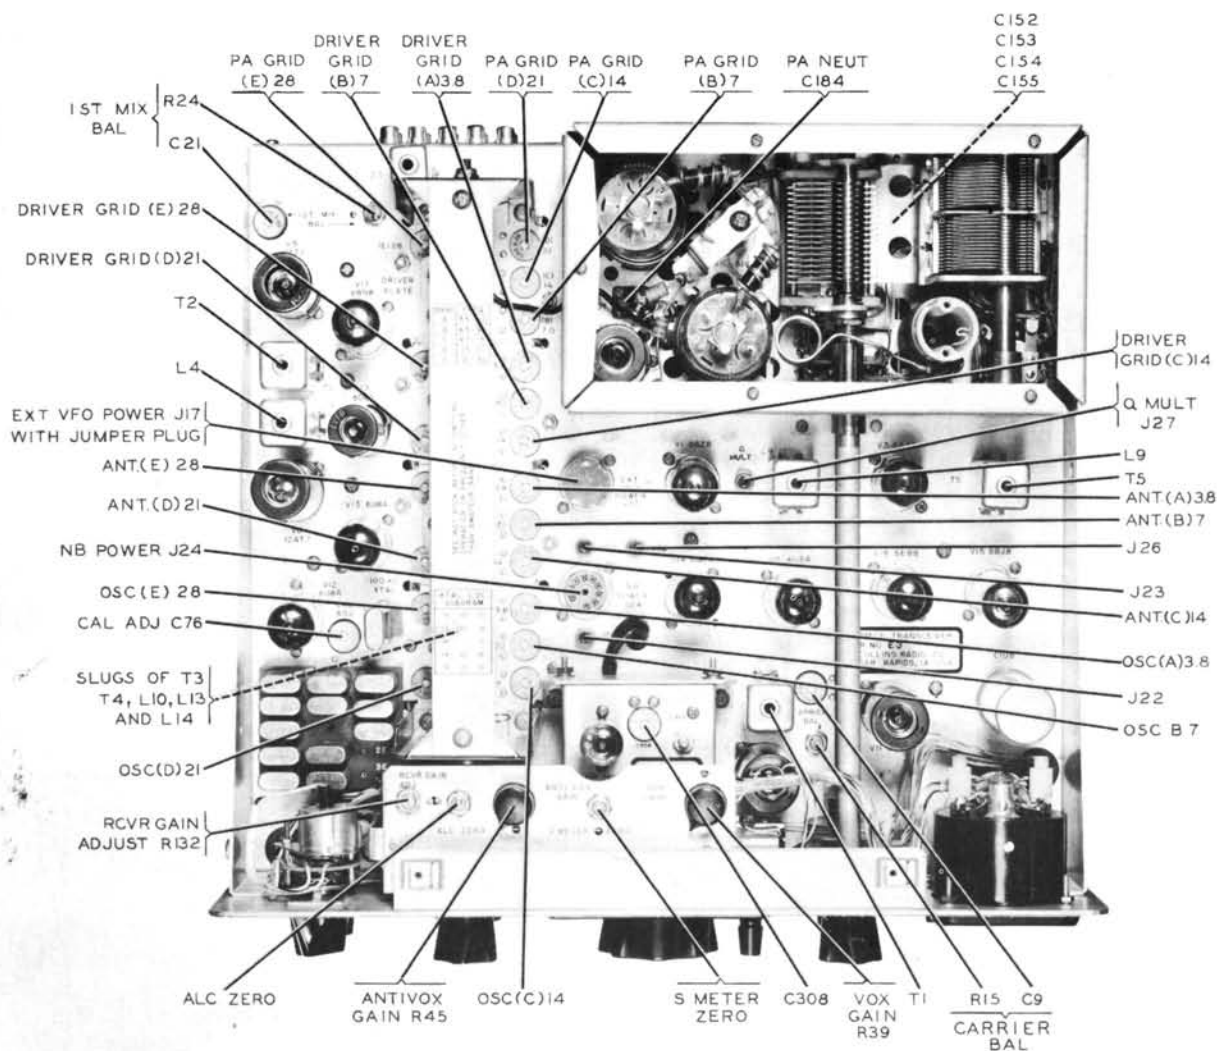

Figure 4-1. Locations of Test Points and Adjustments
Table 4-1 lists significant test points and normal signal levels. Figure 4-1 shows location of adjustments. Before making measurements, set EMISSION
Table 4-2 lists significant test points and normal signal levels. Figure 4-1 shows location of test points and adjustments. All r-f and i-f measurements were made by connecting a vacuum-tube voltmeter to the avc bus and increasing signal generator output until the avc threshold is reached. The avc threshold voltage is the point at which the d-c vtm indication just changes with increased signal level. The receiver was tuned to 14.1 mc for these measurements and test signal injected at indicated testpoints. Signal voltage values are taken from signal generator output attenuator. All values are nominal and may vary $\pm 20\%$ without degrading performance.
4.5.1.2 455-KC I-F ALIGNMENT. (Refer to figure 4-1 for location of adjustments.)